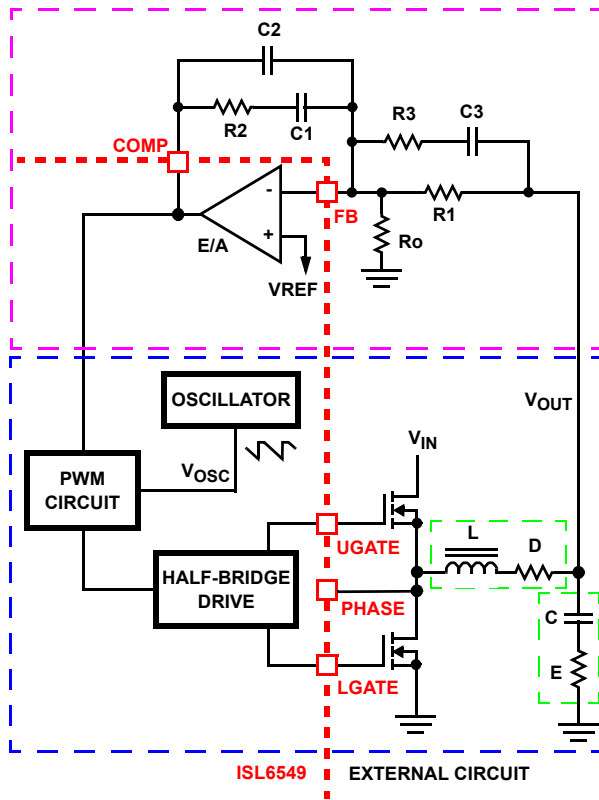

FIGURE 10. VOLTAGE-MODE BUCK CONVERTER COMPENSATION DESIGN
Figure 10 highlights the voltage-mode control loop for a synchronous-rectified buck converter, applicable to the ISL6549 circuit. The output voltage (V_{OUT}) is regulated to the reference voltage, V_{REF}. The error amplifier output (COMP pin voltage) is compared with the oscillator (OSC) modified saw-tooth wave to provide a pulse-width modulated wave with an amplitude of V_{IN} at the PHASE node. The PWM wave is smoothed by the output filter (L and C). The output filter capacitor bank's equivalent series resistance is represented by the series resistor E.
The compensation network consists of the error amplifier (internal to the ISL6549) and the external R1-R3, C1-C3 components. The goal of the compensation network is to provide a closed loop transfer function with high 0dB crossing frequency (F₀; typically 0.1 to 0.3 of F_{SW}) and adequate phase margin (better than 45 degrees). Phase margin is the difference between the closed loop phase at F_{0dB} and 180°. The equations that follow relate the compensation network's poles, zeros and gain to the components (R1, R2, R3, C1, C2, and C3) in Figure 10.
1. Select a value for R1 (1kΩ to 5kΩ, typically). Calculate value for R2 for desired converter bandwidth (F_0). If setting the output voltage via an offset resistor connected to the FB pin, R_o in Figure 10, the design procedure can be followed as presented.